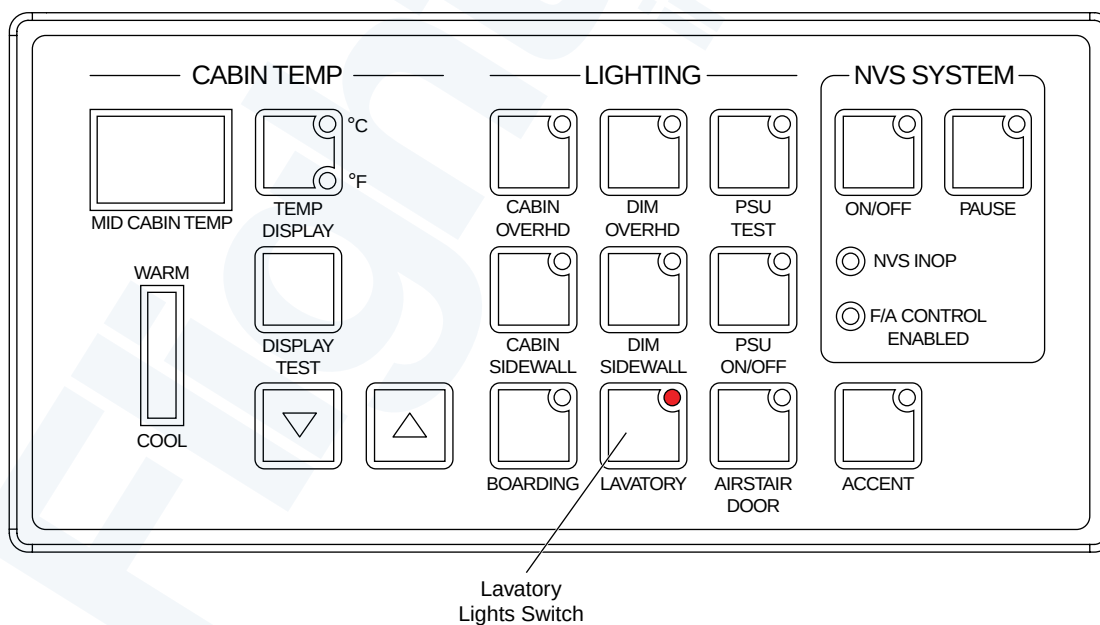

Figure 33-44. Lavatory Lights Switch
- Figure 33-44. Lavatory Lights Switch.